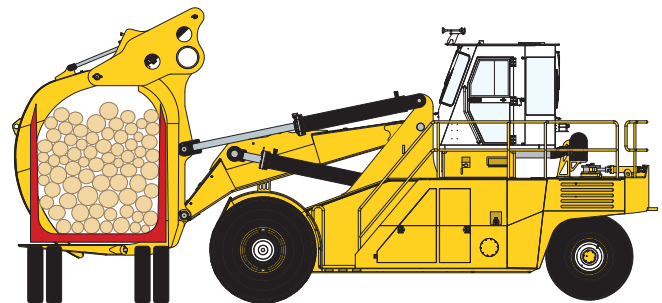

Figure 4-5-2 Securing the Load
4. Securely clamp both holddown arms before the binder chains are removed (See Figure 4-5-2).